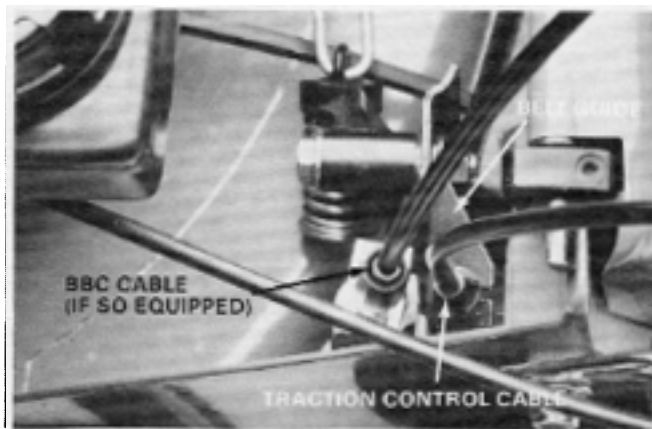

Figure 50
6. Route the traction control cable on the outside of the handle and handle latch and down to the transmission belt guide. Insert the end of the cable into the belt guide as shown in Figure 50.